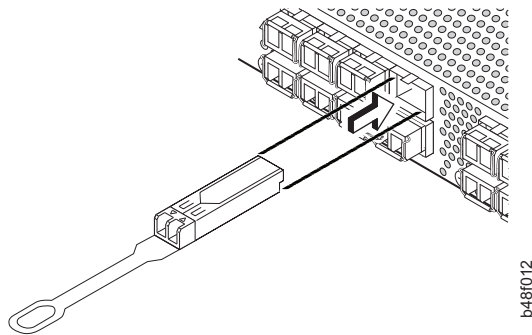
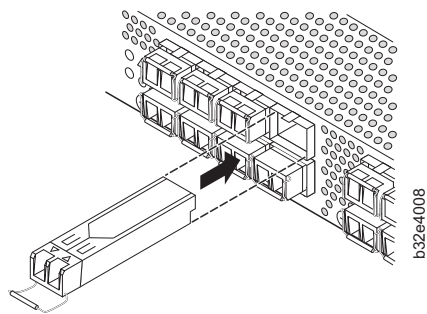

Figure 8. Installing a 16 Gbps SFP+ with pull tab (shown without cable attached)
Figure 9. SFP+ with wire bail latch
The 16 Gbps SFP+ transceivers have an attached pull tab and no latching wire bail. To simplify insertion of the 16 Gbps SFP+ transceivers, it is recommended to connect the cables first, and then insert them as a unit into the port. Figure 8 on page 20 shows the installation of a 16 Gbps SFP+, and Figure 9 on page 20 shows the installation of an 8 Gbps SFP+ with a wire bail latching mechanism. All SFP+ transceivers are keyed so that they can only be inserted into the ports in the correct orientation. Transceivers should slide easily into the port if aligned correctly.
1. Making sure that the bail (wire handle) is in the unlocked open position, align the 8 Gbps or 10 Gbps SFP+ in the correctly oriented position on the port, as shown in Figure 9.